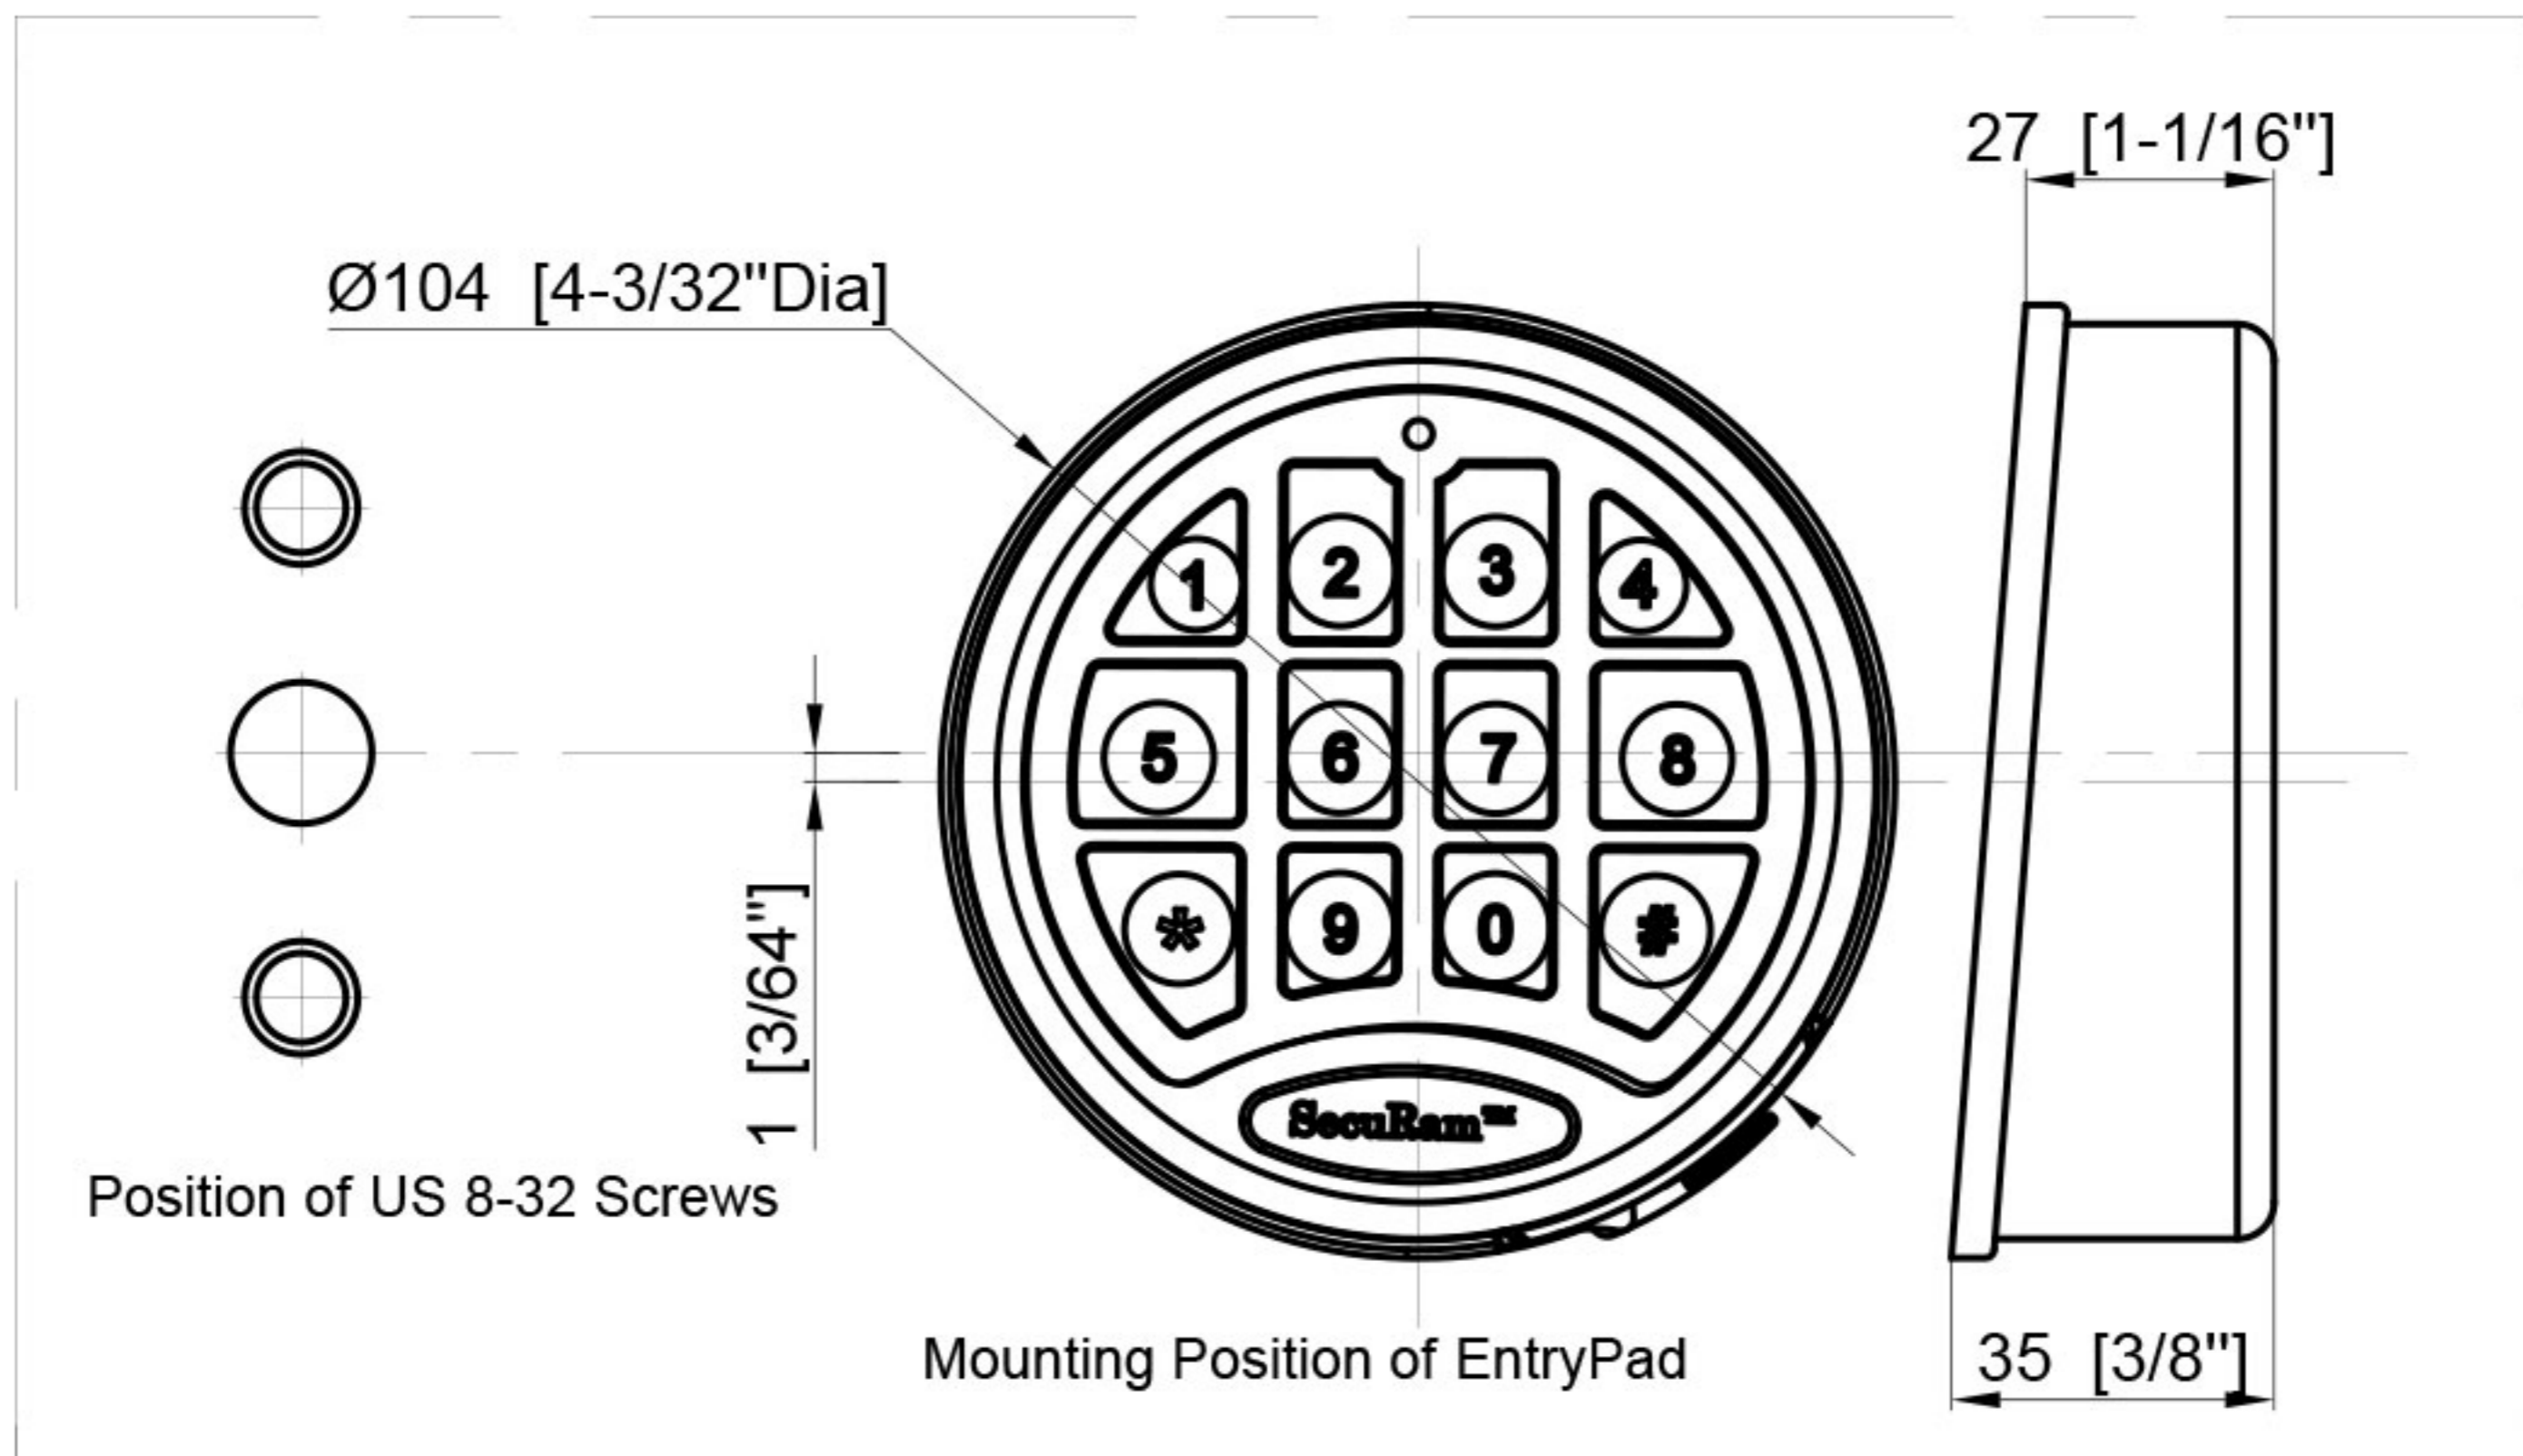

Fig. 8
4. All SECURAM entrypads have the same diameter of 4-3/32"(104mm). (Fig. 8)